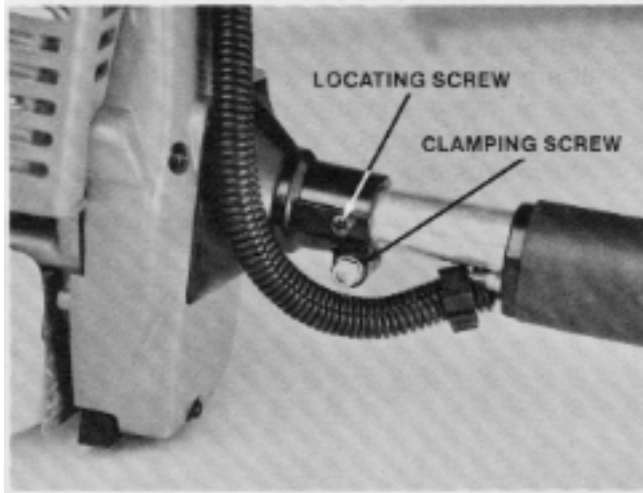

Figure 87
5. Loosen the locating screw and the clamping screw. See Fig. 87.